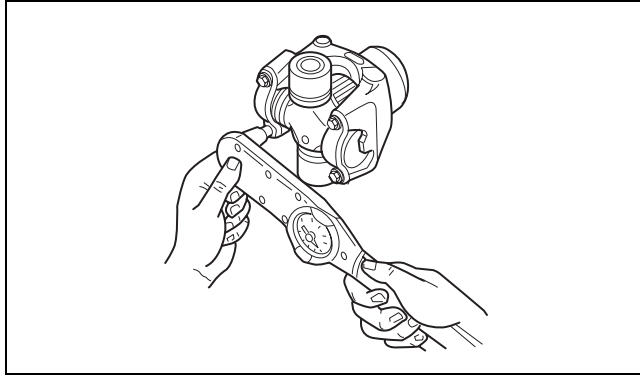

Figure 8.36
4. Use a torque wrench to alternately tighten the capscrews to Meritor’s driveline torque specification. Figure 8.36.